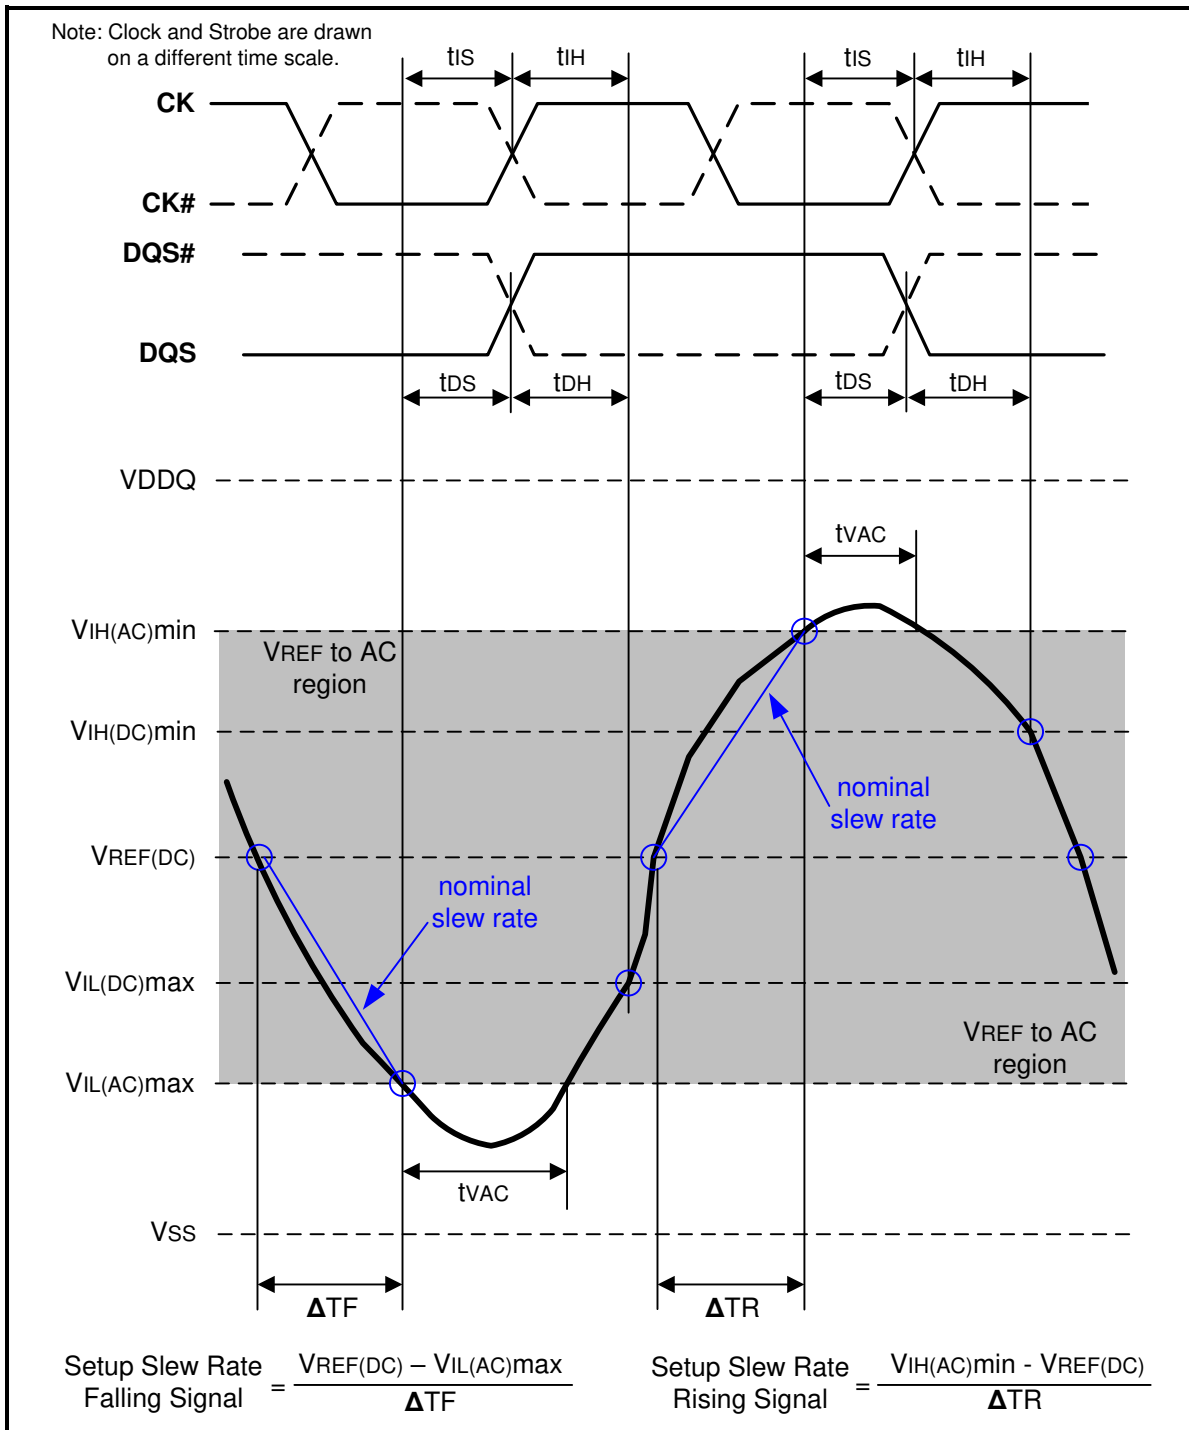

Figure 107 – Illustration of nominal slew rate and tvAC for setup time tDS (for DQ with respect to strobe) and tIS (for ADD/CMD with respect to clock)
Setup (t_{IS}) nominal slew rate for a rising signal is defined as the slew rate between the last crossing of $V_{REF(DC)}$ and the first crossing of $V_{IH(AC)min}$. Setup (t_{IS}) nominal slew rate for a falling signal is defined as the slew rate between the last crossing of $V_{REF(DC)}$ and the first crossing of $V_{IL(AC)max}$. If the actual signal is always earlier than the nominal slew rate line between shaded 'VREF(DC) to AC region', use nominal slew rate for derating value (see Figure 107). If the actual signal is later than the nominal slew rate line anywhere between shaded 'VREF(DC) to AC region', the slew rate of a tangent line to the actual signal from the AC level to $V_{REF(DC)}$ level is used for derating value (see Figure 109).
Setup (tDS) nominal slew rate for a rising signal is defined as the slew rate between the last crossing of VREF(DC) and the first crossing of VIH(AC)min. Setup (tDS) nominal slew rate for a falling signal is defined as the slew rate between the last crossing of VREF(DC) and the first crossing of VIL(AC)max (see Figure 107). If the actual signal is always earlier than the nominal slew rate line between shaded 'VREF(DC) to AC region', use nominal slew rate for derating value. If the actual signal is later than the nominal slew rate line anywhere between shaded 'VREF(DC) to AC region', the slew rate of a tangent line to the actual signal from the AC level to VREF(DC) level is used for derating value (see Figure 109).